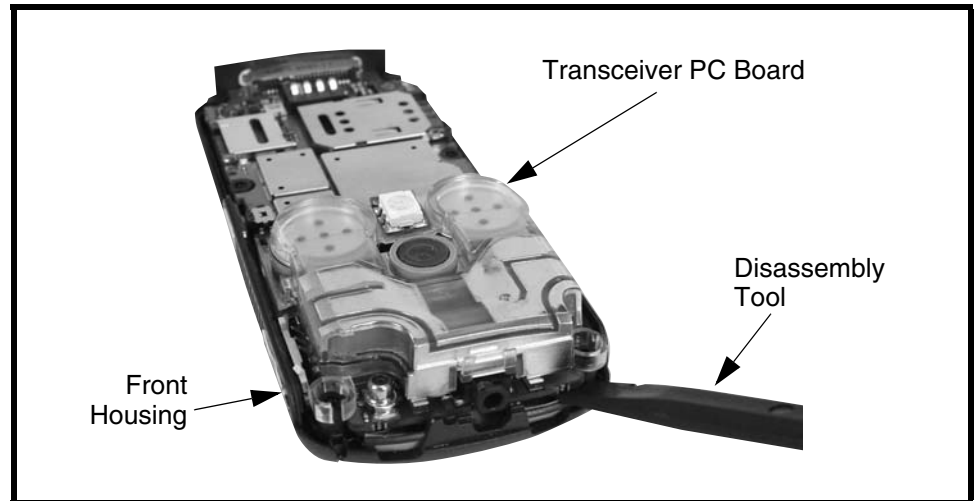

Figure 9. Removing and Replacing the Transceiver PC Board
2. Insert the flat end of the disassembly tool between the front housing and the transceiver PC board as shown in Figure 9.